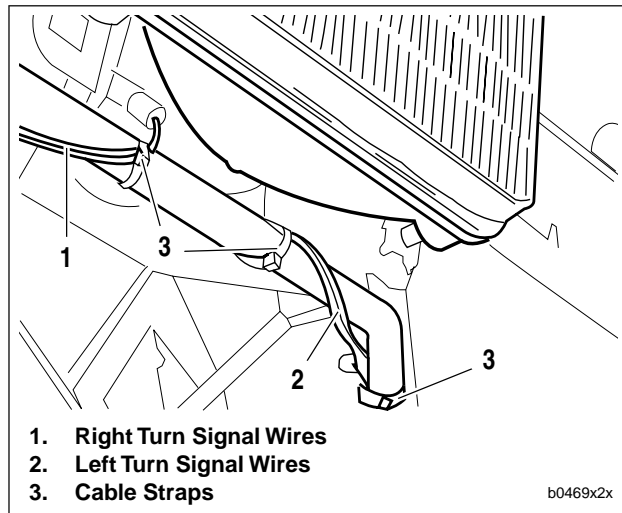

Figure 2-112. Cable Straps
3. See Figure 2-112. Use **new** cable straps (3) to secure wires (1, 2) to front fairing mount.